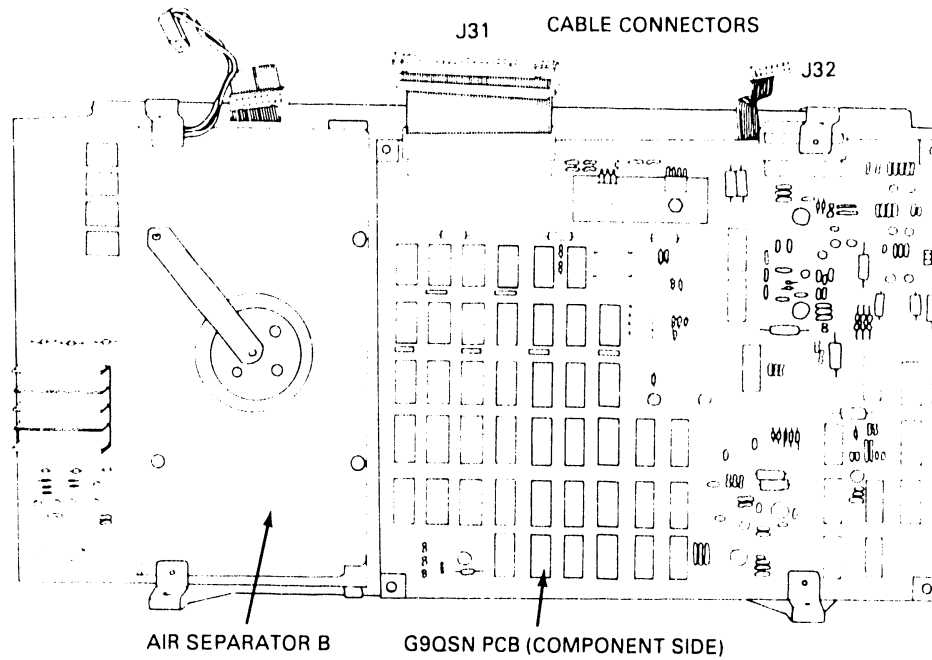

Figure 4-4 G9QSN Cable Connectors
6. Disconnect cable connectors J31 and J32 (see Figure 4-4).
7. Lift the G9QSN PCB slightly and slide it away from the earth pad assembly to remove it (see Figure 4-4).
5. Remove the three screws that secure air separator B to the drive unit (see Figure 4-4).